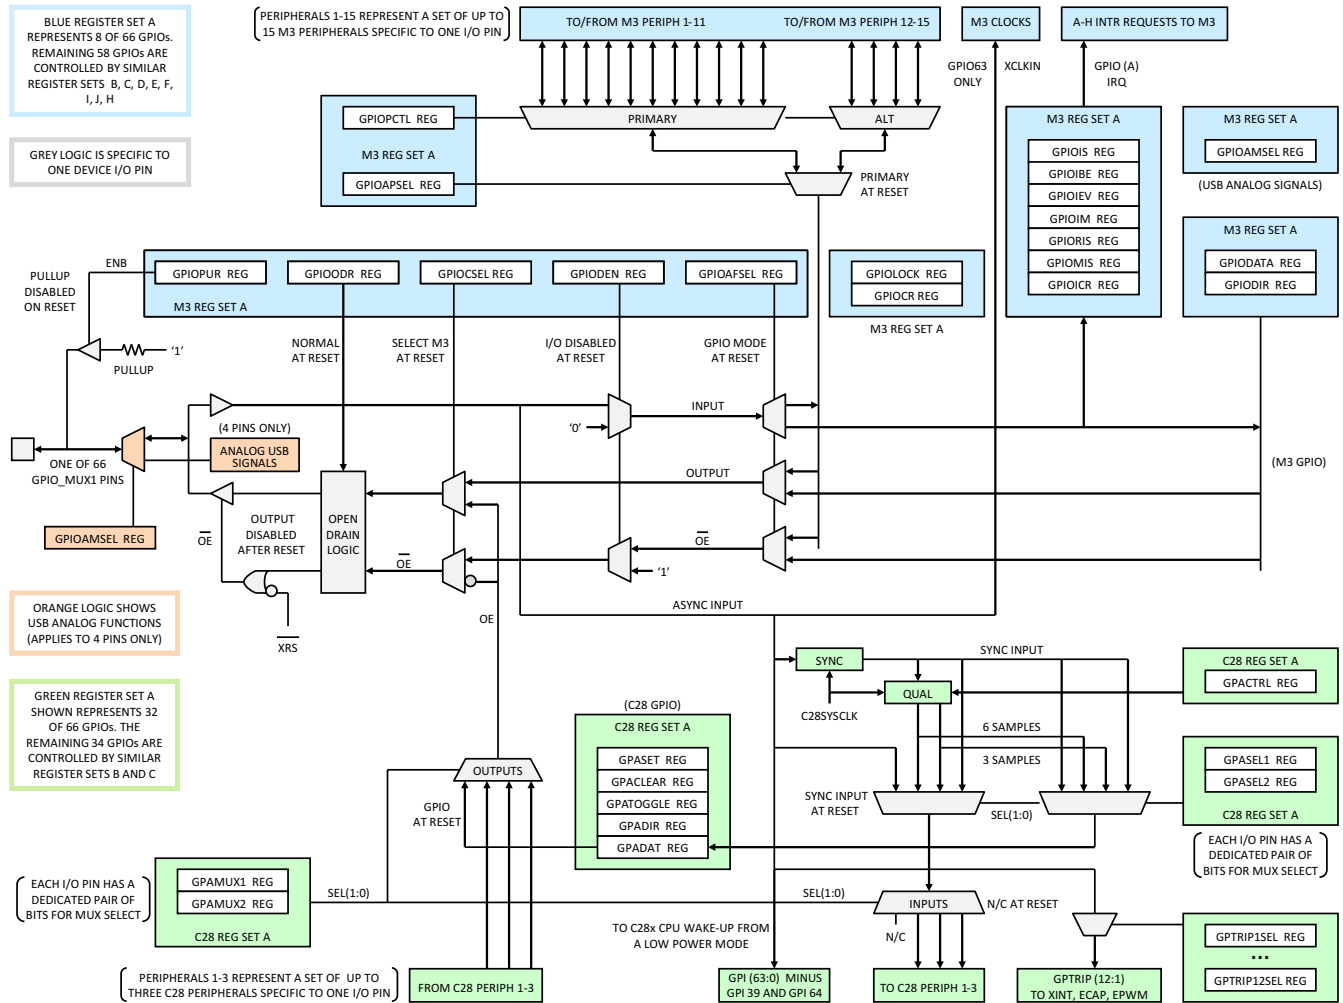

图 8-16. GPIO_MUX1 Pin Mapping Through Register Set A
图 8-15 shows the internal structure of GPIO_MUX1. The blue blocks represent the Master Subsystem side of GPIO_MUX1, and the green blocks are the Control Subsystem side. The grey block in the center, Pin-Level Mux, is where the GPIO_MUX1 pins are individually assigned between the two subsystems, based on how the configuration registers are programmed in the blue and green blocks (see 图 8-16 for the configuration registers).
Mux also provides other signals to the subsystems: XCLKIN and GPIO[A:J] IRQ signals to the Master Subsystem, plus GPTRIP[12:1] and GPI[63:0] signals to the Control Subsystem. XCLKIN carries a clock from an external pin to USB PLL and CAN modules. The nine GPIO[A:J] IRQ signals are interrupt requests from selected external pins to the NVIC interrupt controller. The 12 GPTRIP[12:1] signals carry trip events from selected external pins to C28x control peripherals—ePWM, eCAP, and eQEP. Sixty-four GPI signals go to the C28x LPM GPIO Select block where one of them can be selected to wake up the C28x CPU from Low-Power Mode. Sixty-six (66) GPI signals go to the C28x QUAL block where they can be configured with a qualification sampling period (see Figure 8-16).
The configuration registers for the muxing of Master Subsystem peripherals are organized in nine sets (A - J), with each set being responsible for eight pins. These nine sets of registers are programmable by the Cortex-M3 CPU through the AHB bus or the APB bus. The configuration register for the muxing of Control Subsystem peripherals are organized in three sets (A - C), with each set being responsible for up to 32 pins. These registers are programmable by the C28x CPU through the C28x CPU bus. Figure 8-16 shows set A of the Master Subsystem GPIO configuration registers, set A of the Control Subsystem registers, and the muxing logic for one GPIO pin as driven by these registers.